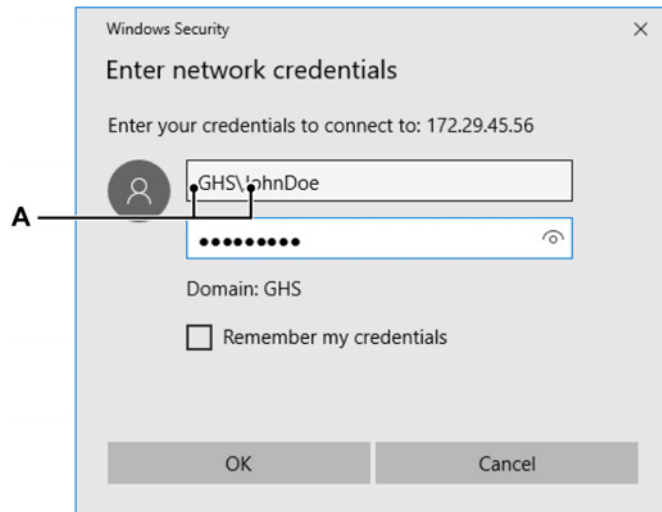

Figure 4.16: Windows Security dialog
- 2 Connecting to a network share is only possible with the right credentials (username + password). When a new network connection is setup Windows® security asks for the **Username** and **Password**, once these are provided Windows® can setup the connection (see Figure 4.16).
Note *The username must be prefixed with **GHS** to specify the correct domain/workgroup (see Figure 4.16).*